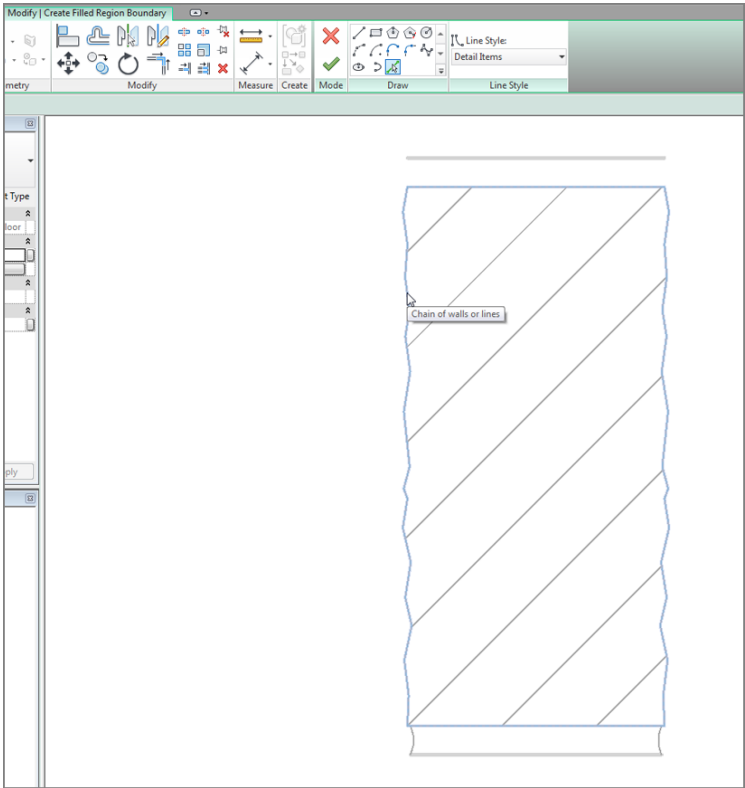

FIGURE 12.25: Press Tab to select the chain of lines, as shown here.
11. On the Draw panel, click the Pick Lines button, as shown in Figure 12.25.
13. Pick any one of the lines (see Figure 12.25). Revit draws the region based on these points.